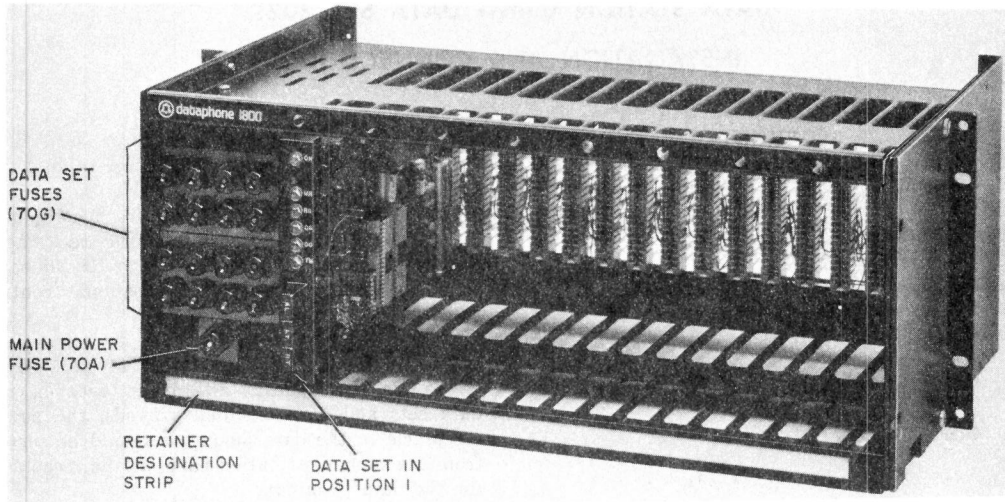
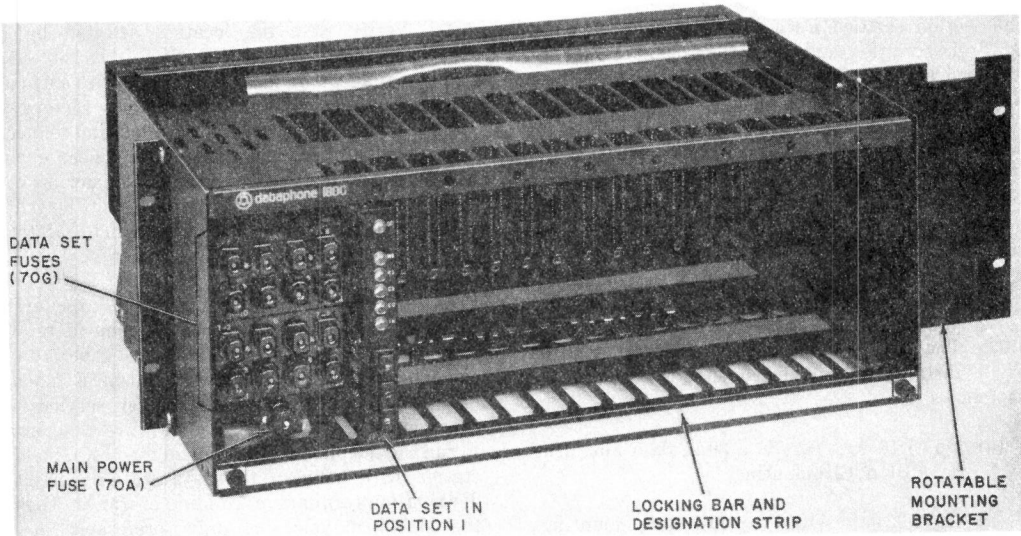

Fig. 1—Front View of 39A1 Data Mounting
Fig. 2—Front View of 40B1 Data Mounting
**1.01** This section contains instructions to be followed when installing and connecting a multiple arrangement of data sets 202T in a 39A1 (Fig. 1) or 40B1 (Fig. 2) data mounting. Refer to the section entitled Data Station Using Data Set 202T—Description and Operation (592-861-100) for a physical and functional description of these arrangements.